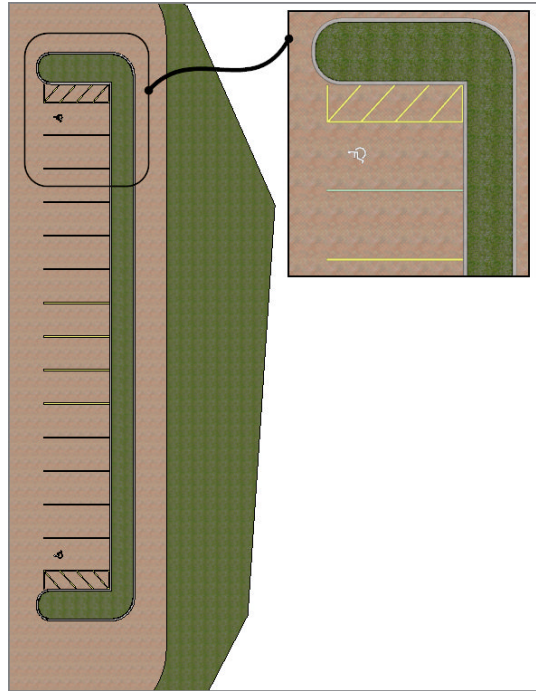

FIGURE 18.15: The parking spaces
5. Mirror the ADA space and the ADA symbol to the north of the parking island, as shown in Figure 18.15.
6. Add a parking space 9' × 18' - 90 deg (2743mm × 5486mm), and copy it up to fill the island with parking (see Figure 18.15).